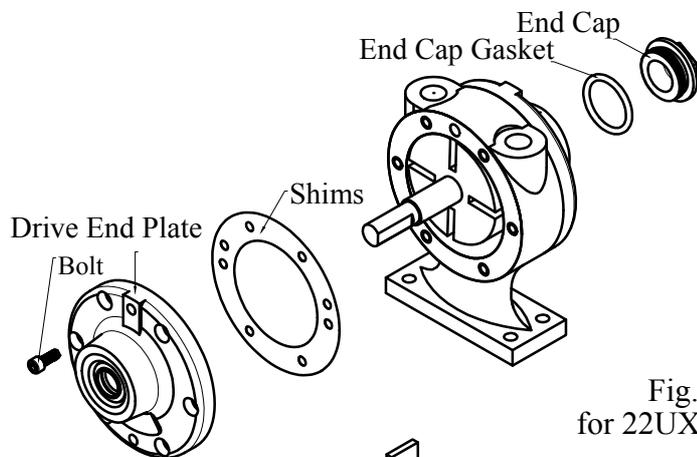

Fig. 5
1. Use the proper sized wrench to carefully remove the end cap from the motor with approximately 25 ft-lb torque. Then remove the end cap gasket. Refer to fig. 1, fig. 3, fig. 5.
3. Remove the drive end plate. Refer to fig. 1, fig. 3, fig. 5.